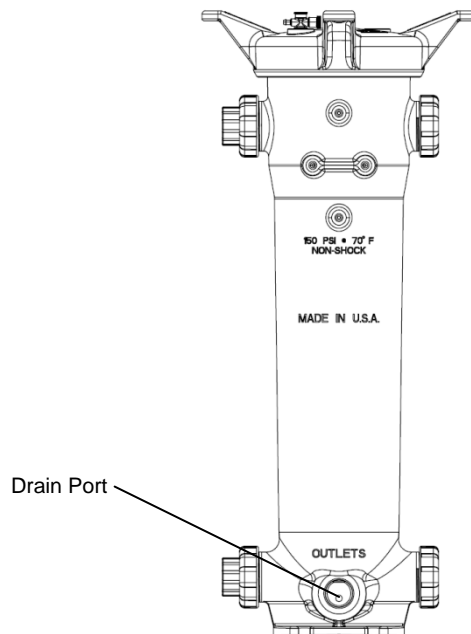

Fig. 4: Drain port location.
- 2.4.1.3 After all pressure has been relieved, remove plug from drain port and allow vessel to drain completely. Capture and dispose of drained chemicals properly. (See fig. 4.)